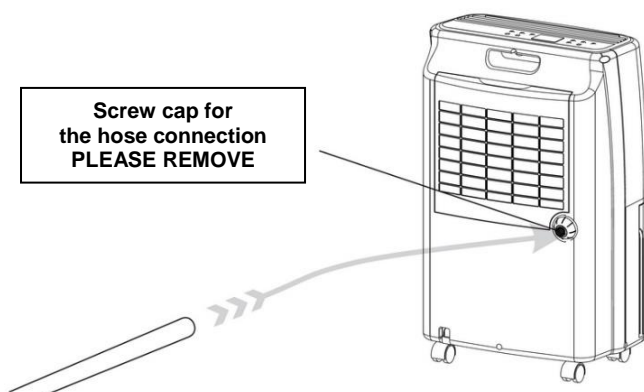

Fig. 1
- 3.2. Loosen the screw cap on the rear right side of the dehumidifier and keep it in a safe place! (See Fig. 1)